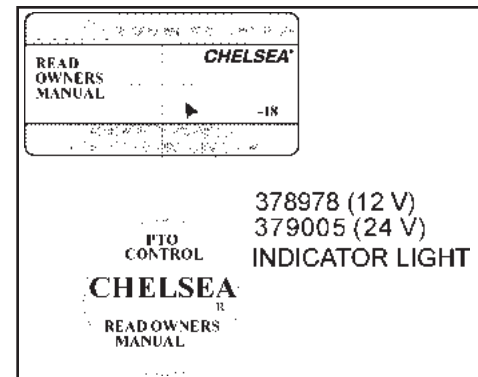

Fig. 14
5. Install the control plate (68-P-18) stick on decal and indicator light on the dash using the hardware supplied in the 328751-1X installation kit (**Fig. 14**).